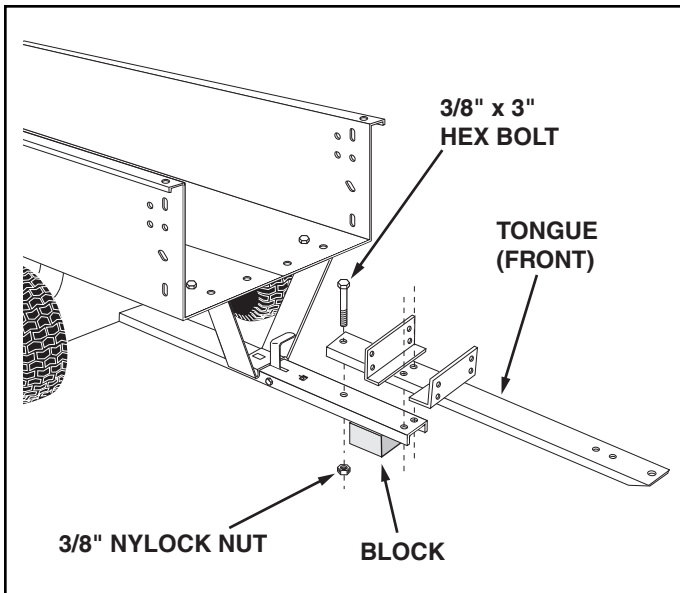

FIGURE 8
- Assemble the front tongue on top of the rear tongue using three 3/8" x 3" hex bolts and 3/8" nylock nuts. See figure 8.